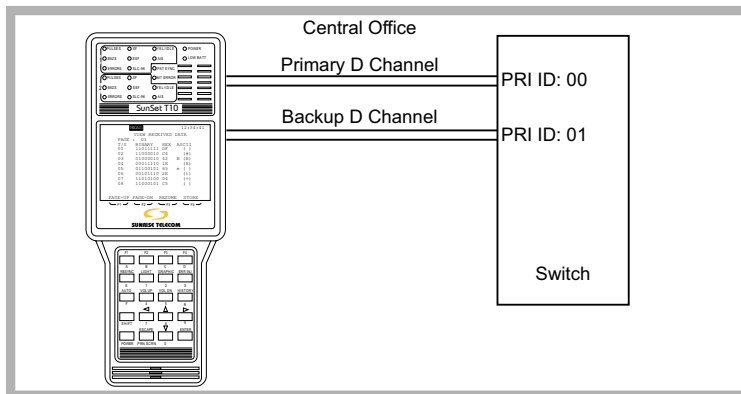

Figure 199 Back-up D Channel
3. Connect the SunSet T10 to the circuit as shown in Figure 199. Press the HISTORY key on the keypad to clear the blinking LEDs.